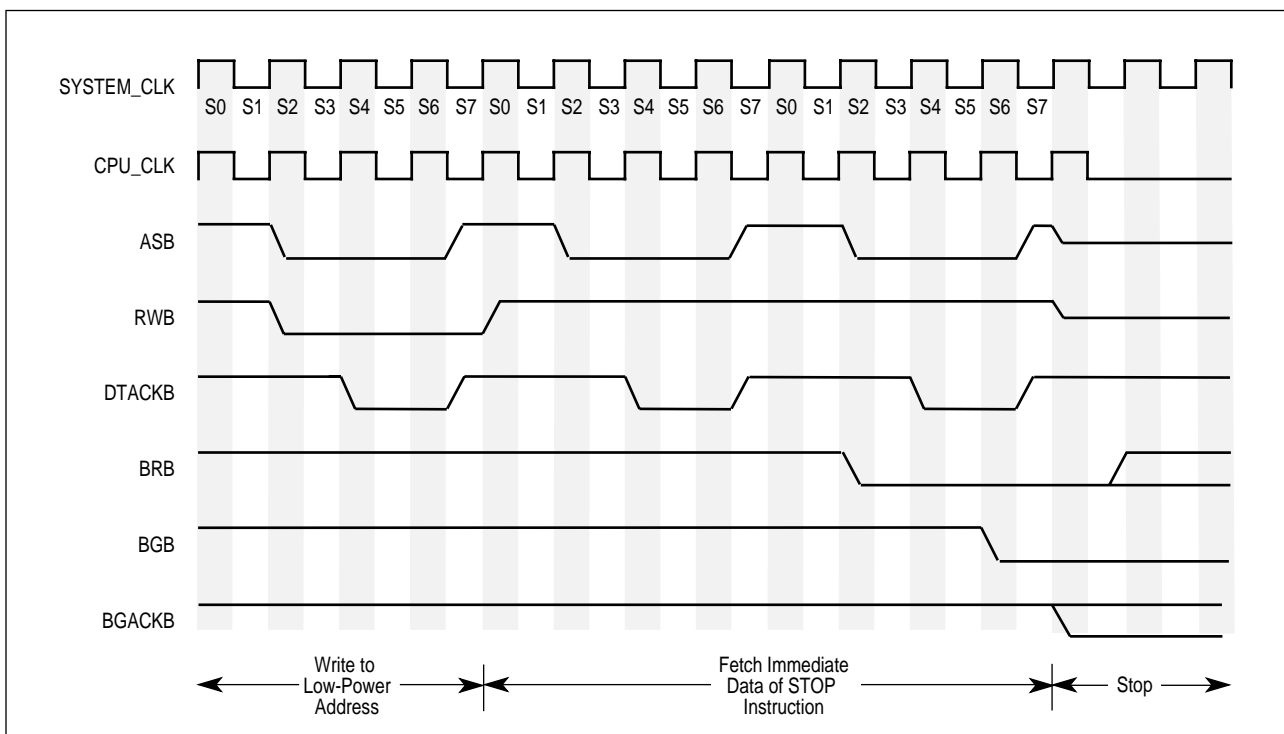
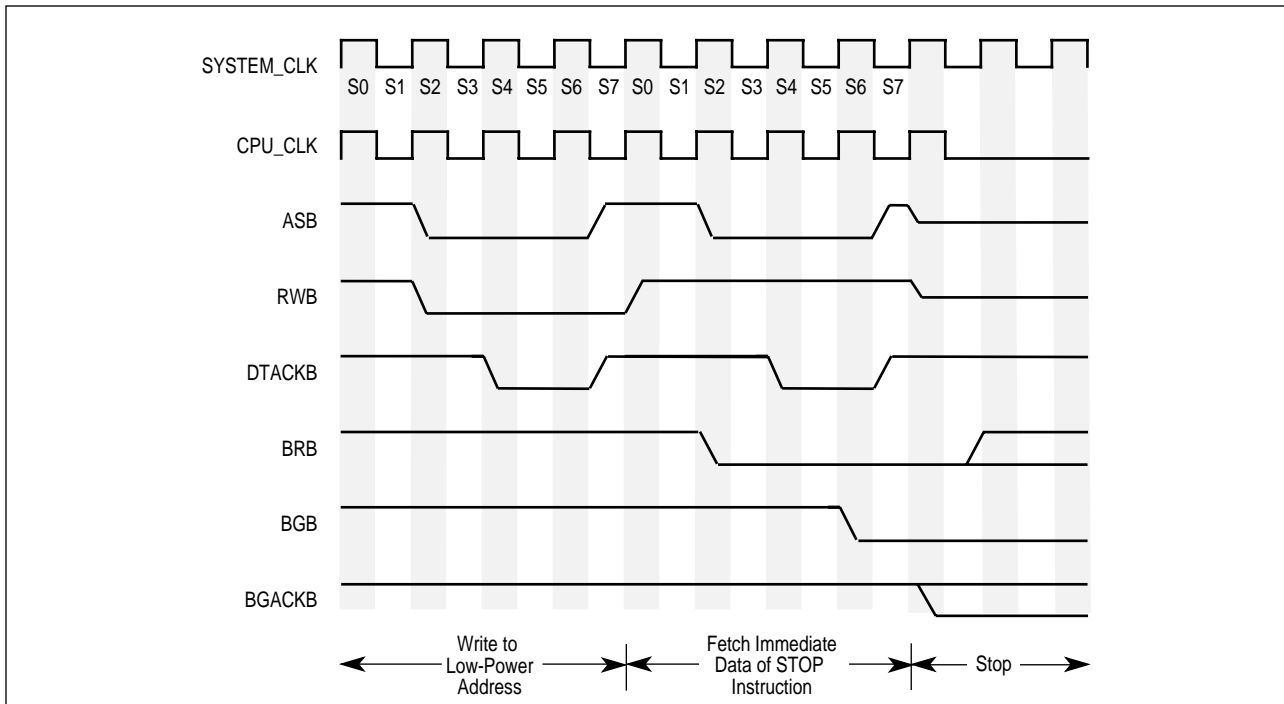

Figure 5. Clock Stop Timing with Bus Arbitration for 8-bit Data Bus
Figure 6. Clock Stop Timing with Bus Arbitration for 16-bit Data Bus
- This step is optional depending on whether your applications need the three-stateable signals of the SCM68000 to be placed in a high-impedance state. To place the SCM68000 into a three-state condition, complete the proper method for arbitrating the bus during the status register data fetch for the **stop** instruction. The timing diagrams with the bus arbitration sequence are illustrated in Figure 5 (8-bit mode) and Figure 6 (16-bit mode). Refer to **Section 3.2 Bus Arbitration** in the *EC000 Core Processor User's Manual* for more information.